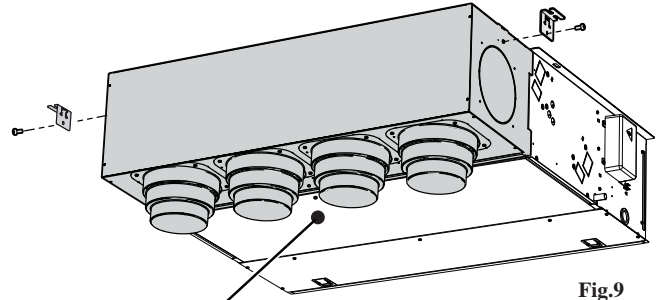

Fig.9
- Install the two fixing brackets in the appropriate side slots and fasten them using the two screws provided (fig.9).